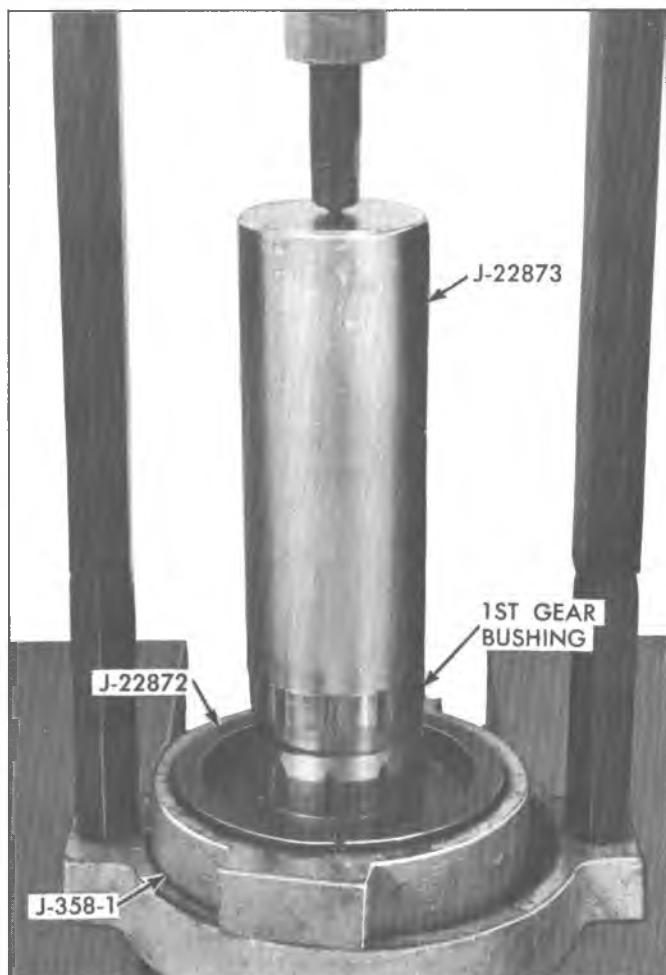

Fig. 17Q-Installing 3rd Speed Gear Bushing
4. Using Tool J-22873 press 1st speed gear bushing onto mainshaft until it bottoms against hub (fig. 17Q).